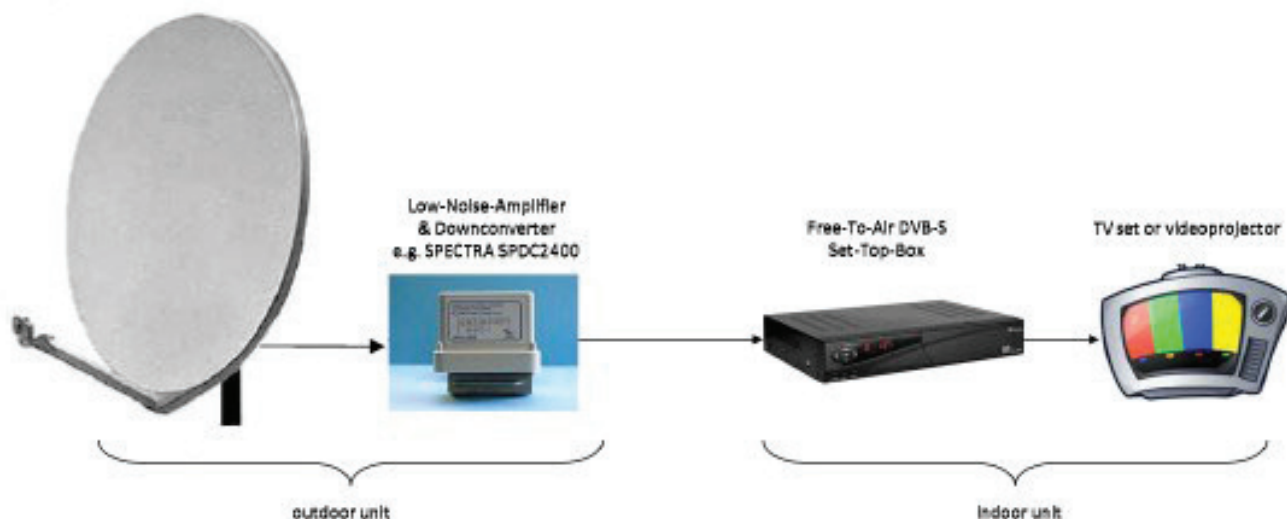

Figure 2: Equipment required to receive HamTV from the ISS
- Refer to Figure 2, showing the relationship of the system components.